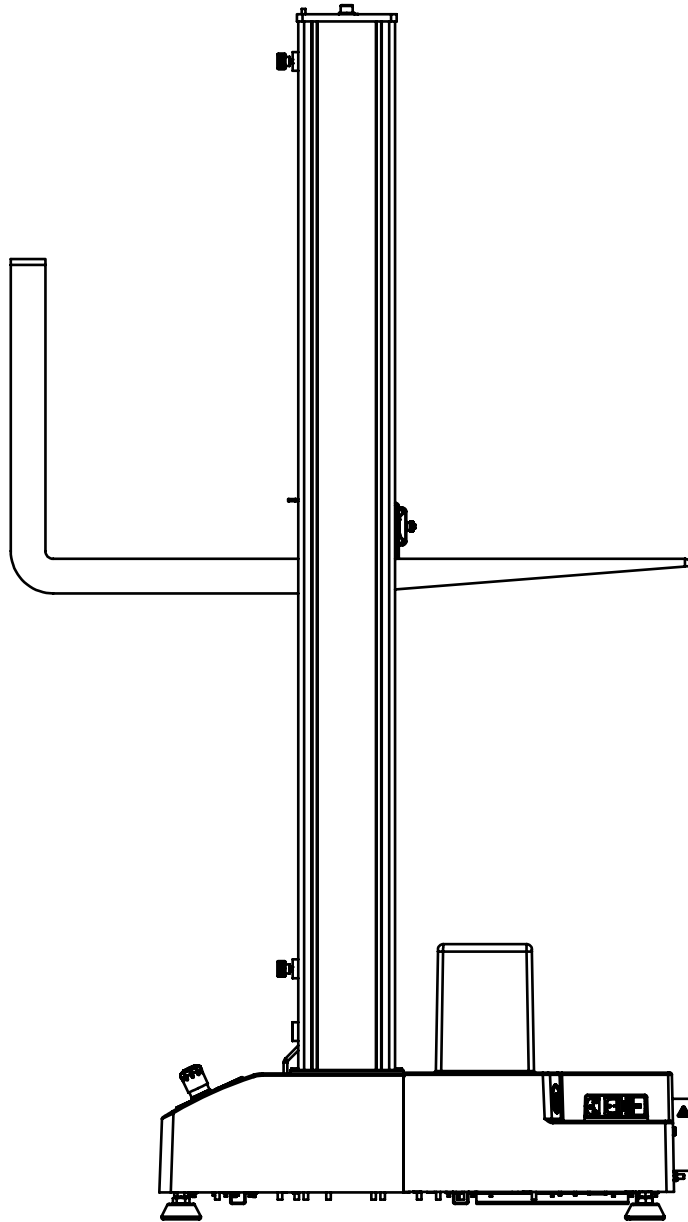

Figure 11. Lifting the Frame from the Crosshead
2. Using a forklift with padded forks or protective material around the crosshead, carefully insert the forks under the crosshead between the columns. See Figure 11 on page 64.